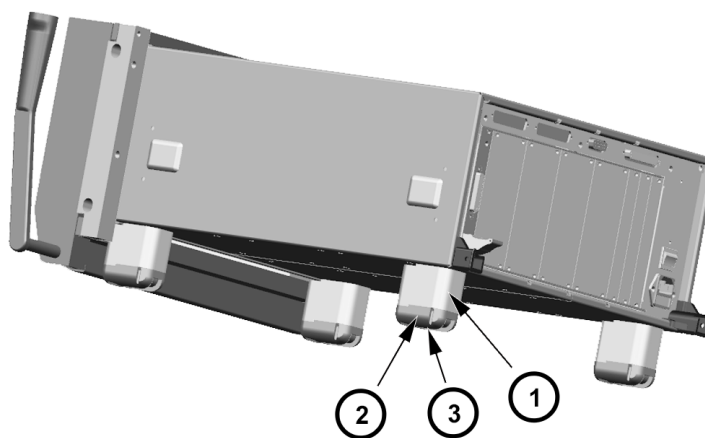

Figure 5-14: Elevation feet mounting
2. Remove 4x rubber feet (Figure 5-14, item 2).
3. Mount the elevation foot together with the rubber foot (Figure 5-14, item 1 and 2) of the device.
4. Push the screw (Figure 5-14, item. 3) through the drill holes of the rubber foot (Figure 5-14, item. 2) and the elevation foot (Figure 5-14, item. 1).